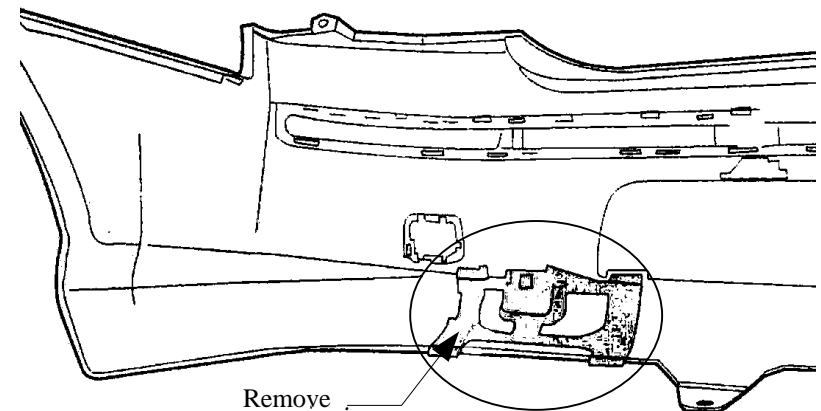

Fig. 2
2. Disassemble bumper cover. Under cover is placed plastic reinforcement. On the left side of this reinforcement unscrew 4 bolts M8. Put left fishplate (pos. 5) in this way, so 4 holes in the fishplate agree with holes in the reinforcement. Fix loosely using bolts M8x50mm (pos. 13) from accessories, remember – put 2 bolts M12x40mm (pos. 11) before fix, see drawing.
3. Next make the same actions on the right side. Unscrew 4 original bolts M8. Put right fishplate (pos. 4) in this way, so 4 holes in the fishplate agree with holes in the reinforcement. Fix loosely using bolts M8x50mm (pos. 13), remember – put 2 bolts M12x40mm (pos. 11) before fix, see drawing.
4. On protruding from fish-plates bolts M12 put side brackets pos. 8 and 9, next fix it by bolts M12x40mm (pos. 11).
6. According to the drawing put side handles pos. 6 and 7 and fix it by bolts M10x40mm (pos. 12) to chassis members and next between mounted elements put main bar of the towbar (pos. 1) and fix it to already mounted side elements by bolts M12x40mm (pos. 11).
8. Fix body of the automat (pos. 24) using bolts M12x25mm (pos. 10) from accessories. Place tow-ball (pos. 2) according to supplied instruction.
9. Fix the socket plate (pos. 3) as shown on the drawing.
10. Reinstall the bumper after remove element show on figure 2.